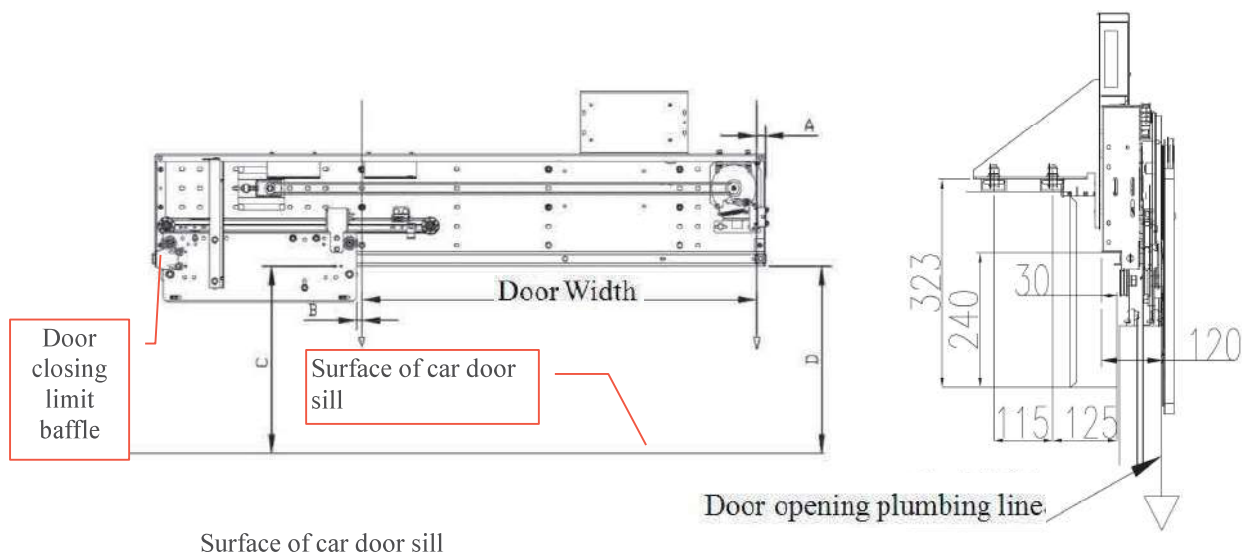

Figure 5-3-2 Adjust hanging components (2 Panels side opening doors)
- a) After the car operator is installed, adjust the horizontal positions of the car door hanging components. For the 2 panels side opening doors, so that the distance from the end of the motor close to the vertical line of the door opening $A = 24 \pm 1\text{mm}$, refer to Figure 5-3-2;
- b) Adjust the vertical positions of the car door hanging components so that the distance from the car door hanging components lower end surface of guide rail to the sill surface is $C=D=(\text{opening net height} + 210) \pm 1$, refer to Figure 5-3-2
- c) Adjust the longitudinal position of the car door hanging components. For the 2 panels side opening doors, the distance between the door head back panel of the car door hanging components and the door opening width vertical line is $120 \pm 1\text{mm}$, refer to Figure 5-3-2;
- d) Adjust the position of the door hanging panels of the car door hanging components. Move the hanging door panels to the ends of the door operator to adjust the left and right positions of the door closing limit baffle. For the 2 panels side opening doors, the distance between the section of the hanging door and the vertical line is $B=15 \pm 1\text{mm}$, refer to Figure 5-3-2